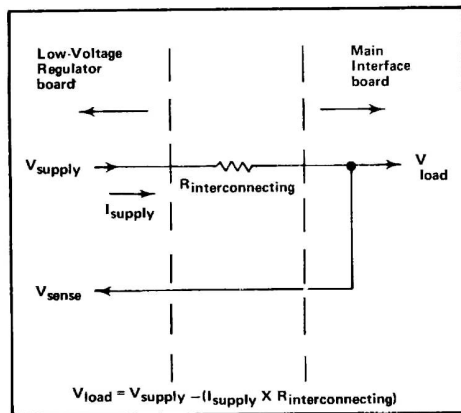

Fig. 3-36. Schematic illustrating voltage drop between power supply output and load due to resistance of interconnecting wire.
Zener diode VR982 sets a reference level of about -9 volts at the base of Q984A. A sample of the output voltage from this supply is connected to the base of Q984B through divider R985-R986-R987. R986 in this divider is adjustable to set the output level of this supply. Notice that the feedback voltage to this divider is obtained from a line labeled -50 V Sense. Fig. 3-36 illustrates the reason for this configuration. The inherent resistance of the interconnecting wire between the output of the -50-Volt Supply and the load produces a voltage drop which is equal to the output current multiplied by the resistance of the interconnecting wire. Even though the resistance of the wire is small, it results in a substantial voltage drop due to the high output current of this supply. Therefore, if the feedback voltage were obtained ahead of this drop, the voltage at the load might not maintain close regulation. However, the -50 V Sense configuration overcomes this problem since it obtains the feedback voltage from a point as close as practical to the load. Since the current in the -50 V Sense line is small and constant, the feedback voltage is an accurate sample of the voltage applied to the load.
The Format Generator stage provides the output signals to the vertical and horizontal deflection systems of the instrument to produce the character display. The binary Channel Address No. 2 code from the Channel Counter stage is connected to this stage so the display from each channel is positioned to the area of the CRT which is associated with the plug-in and channel originating the word (see Fig. 3-36). The positioning current or decimal point location current generated by the Decimal Point Logic and Character Position Counter stage is added to the horizontal (X) signal at the input to the Format Generator stage to provide horizontal positioning of the characters within each word. The X and Y-output signals are connected to the Horizontal Amplifier and Vertical Amplifier through the Horizontal Output and Vertical Output stages respectively.